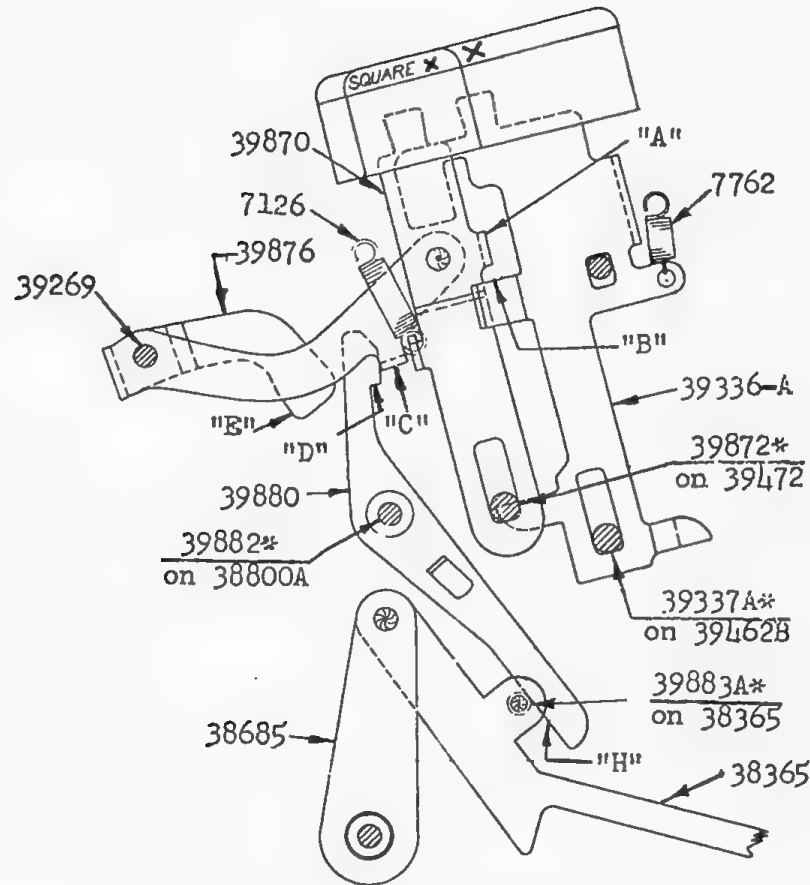

FIG. 60
1. (Fig. 60). Depression of the Square-X-Key results in an X-Key operation without Keyboard clearance in order to allow multiplication of a number by itself without having to enter the same number twice. The Square-X-Key Stem-39870 has an ear "A" which overlies an ear "B" on the X-Key Stem-39336A, carrying the X-Key down and
2. (Fig. 60 & 61). The surface "E" on the left arm of Bail-39876 contacts ear "F" on the Live Point-39861* on the Keyboard Clear Bail-38280, rocks the Live Point-39861* clockwise, and thereby moves its ear
3. (Fig. 60). During the setting cycle on X-Key operation the Link-38365 moves rearward so that its Stud-39883A* rocks Latch-39880